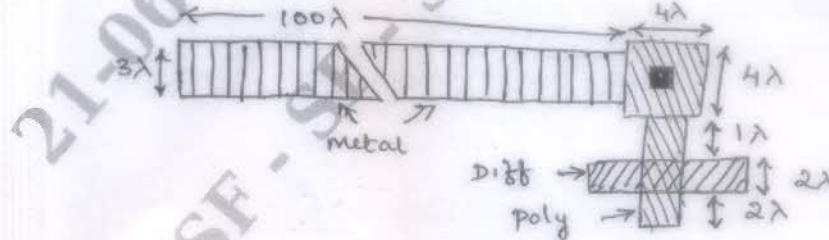

Fig.Q4(b)
b. Calculate the capacitance of the structure given below in Fig.Q4(b). (10 Marks)